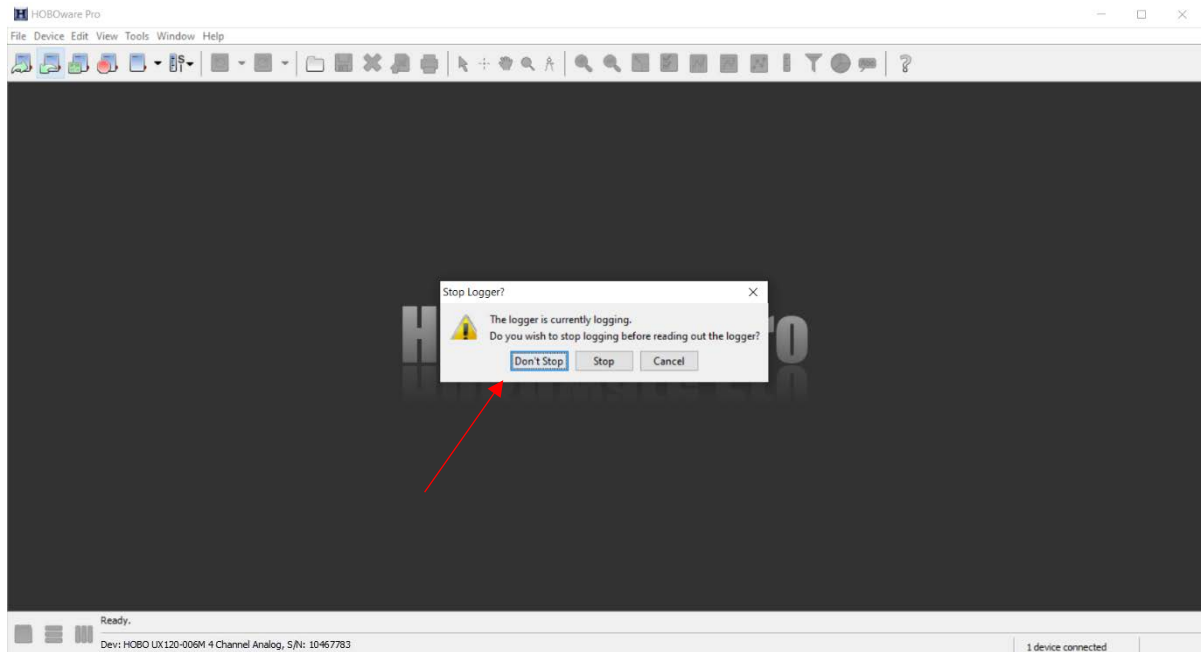

Figure A.4.15: The “Stop Logger?” pop-up window.
4. The “Stop Logger?” pop-up window will appear asking if you want to stop logging as shown on Figure A.4.15, click **“Don’t Stop”**.